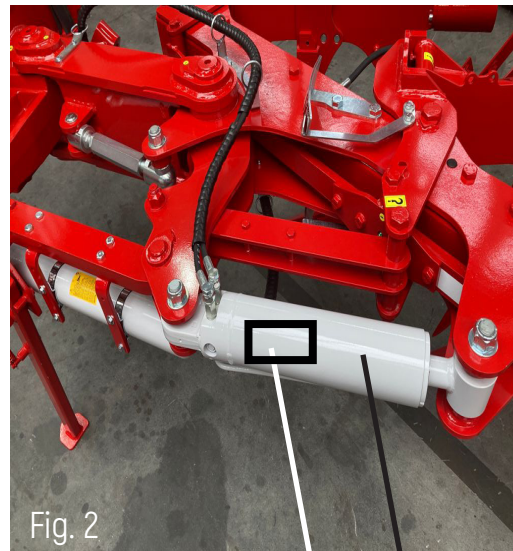

Fig. 2
In the OVLAC XP models the working width can be adjusted up to the needs of the farmer, in 4 different positions divided by steps of 2" (5 cm). The positions 1 and 4 answer to the minimum and maximum positions, respectively (Fig. 3). After changing the working width of the plough, you must regulate the landslide extension of the plough through the memory cylinder (C) by adjusting the working measure as the sticker X indicates (Fig. 2). Make sure that the allignement of the bodies coincide with the working direction.